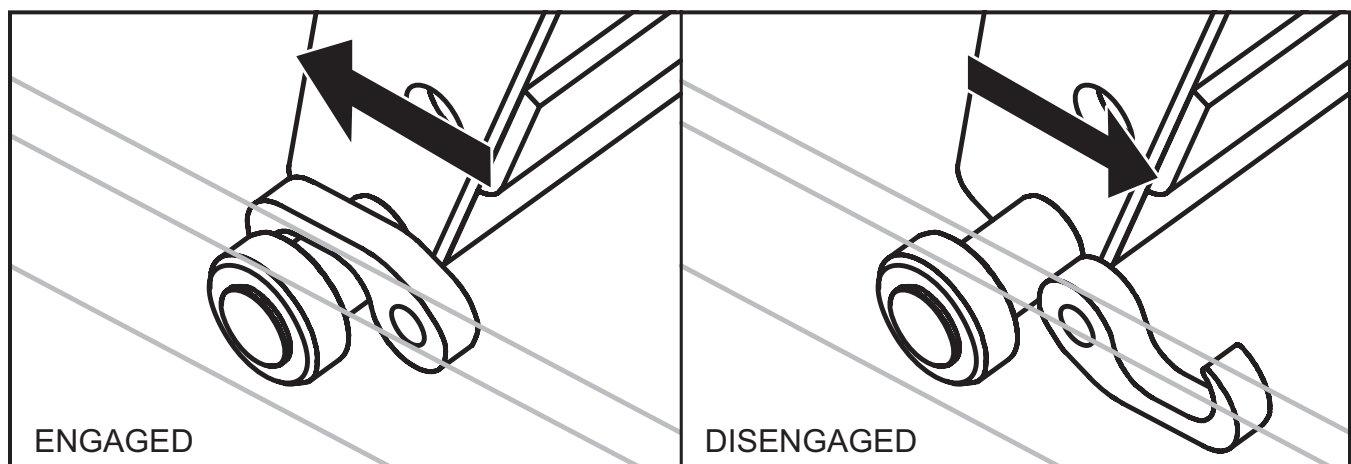

Figure 4 - Maintenance Catch Details
2. Move to the side of the lift. As detailed in Figure 4, rotate the maintenance catch until the catch arm engages the outer scissor leg axle.
2. Move to the side of the lift and rotate the maintenance catch to its disengaged position (See Figure 4).
3. Repeat step two (2) for opposite side of the lift.